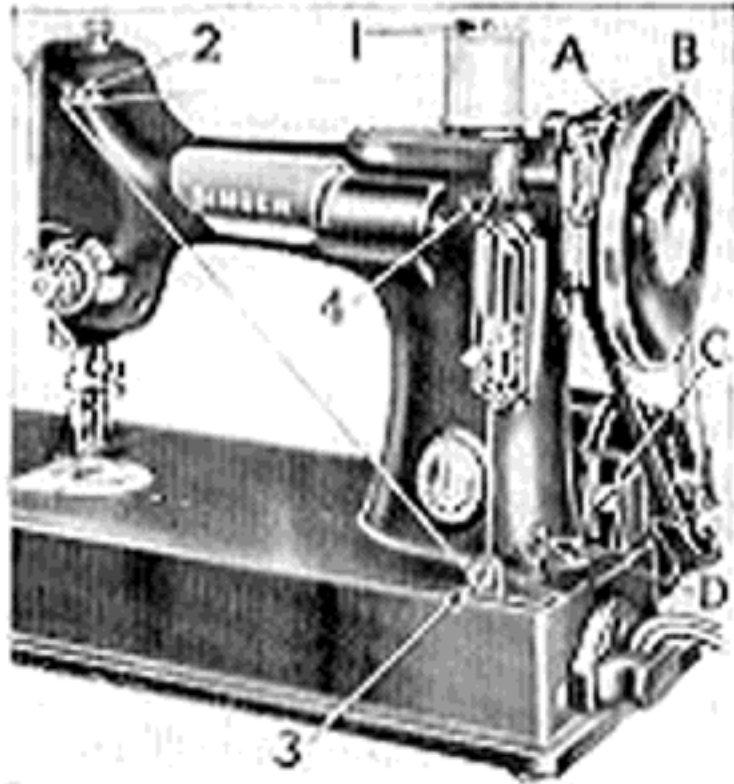

Fig. 8
Unwind the long electric cord supplied with the machine. Push the socket plug at one end of the electric cord as far as it will go to the three-pin terminal block at the right of the machine, as shown in Fig. 8. Attach the plug at the other end of the cord to the nearest electric point. Place the foot controller in a convenient position on the floor and the machine is ready for operation.
To Wind the Bobbin (See Fig. 8) Loosen the balance wheel (see Fig. 4). Place an empty bobbin on the bobbin winder spindle and push it on as far as it will go. Place a reel of thread on the spool pin (1), and lead the thread into the guide (2), under and between the tension discs (3), and, from the inside, through one of the holes in the left side of the bobbin (4). Press down the bobbin winder pulley against the belt, and then gradually apply pressure to the foot controller to operate the bobbin winder. The end of the thread must be held until a few coils are wound and should then be broken off. When sufficient thread has been wound upon the bobbin, release pressure on the foot controller, pull the bobbin winder pulley away from the belt and remove the bobbin from the spindle.
The Belt. The belt tension should be only enough to keep the belt from slipping. If the tension is incorrect, loosen the screw (C, Fig. 8) about one turn to allow the motor to drop downward. Now retighten the screw and the belt will be found to have the correct tension.